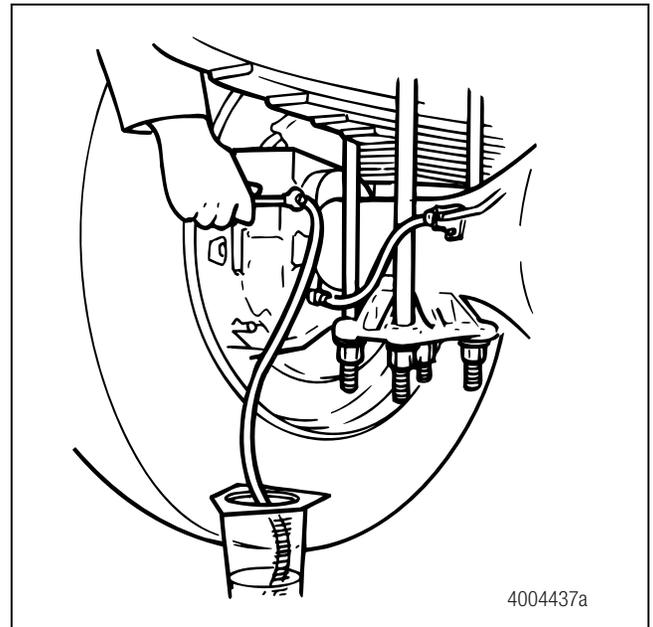

Figure 4.52
- C. Use a wrench to open the bleeder fitting screw to the torque value specified by the component manufacturer. Figure 4.52.